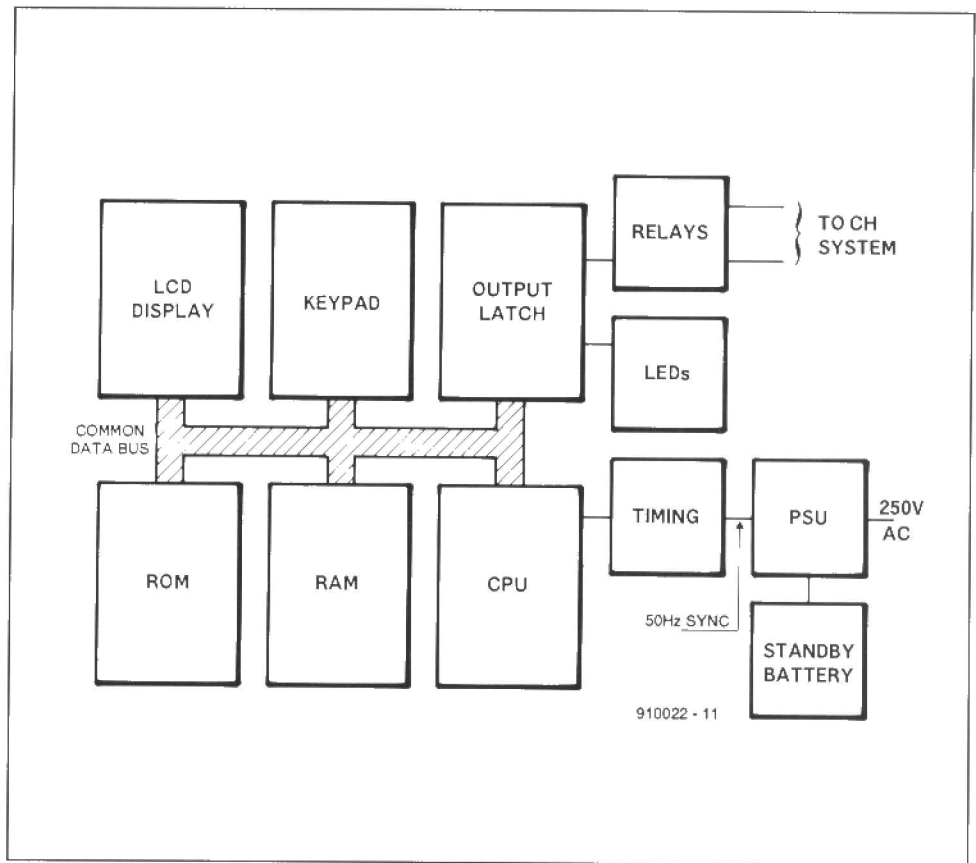

Fig. 1. Block diagram of the Z84C00-based central heating controller.
**T**HE block diagram of the system is shown in Fig. 1. The CPU (central processing unit) is a CMOS version of the popular Z80 8-bit microprocessor. This is connected to the ROM (read-only memory), RAM (random-access memory), display unit, key switches and output latch via a common 8-bit data bus.